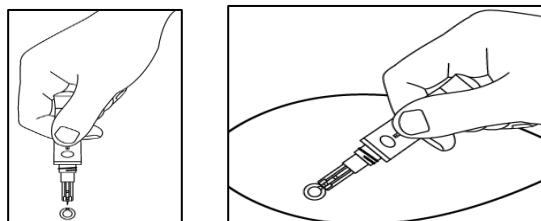

Fig 5.37
**Step 10:** Unscrew the lancing device cover. Place the safety cap of the lancet on a hard surface and carefully insert the lancet needle into the safety cap. Press the release button to make sure that the lancet is in the extended position. Slide the ejection button forward to eject the used lancet. Place the lancing device cover back on the lancing device (Ref Fig 5.37).